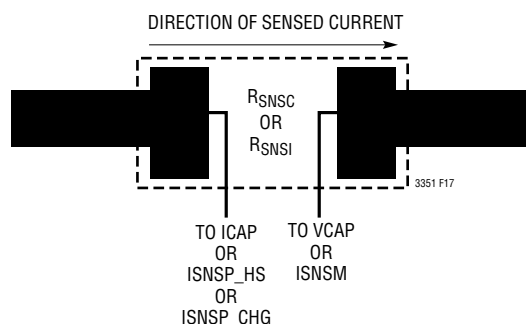

Figure 17.
- Route I_{CAP} and V_{CAP} sense lines together, keep them short. Apply this rule to ISNSP_HS, ISNSP_CHG and ISNSM as well. Filter components should be placed near the part and not near the sense resistors. Ensure accurate current sensing with Kelvin connections at the sense resistors. See Figure 17.